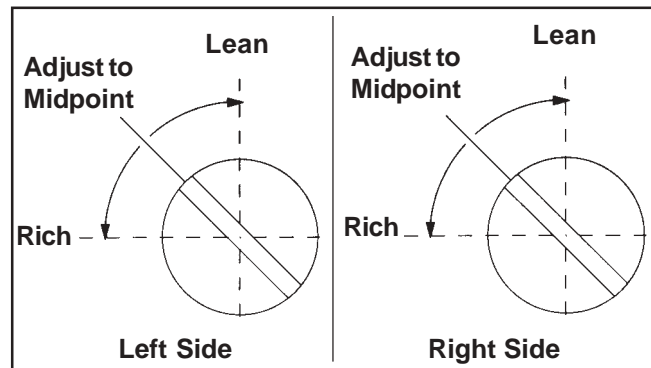

Figure 5-13. Optimum Low Idle Fuel Settings.
- a. Turn one of the low idle fuel adjusting needles out (counterclockwise) from the preliminary setting until the engine speed decreases (rich). Note the position of the needle. Now turn the adjusting needle in (clockwise). The engine speed may increase, then it will decrease as the needle is turned in (lean). Note the position of the needle. Set the adjusting needle midway between the rich and lean settings. See Figure 5-13.